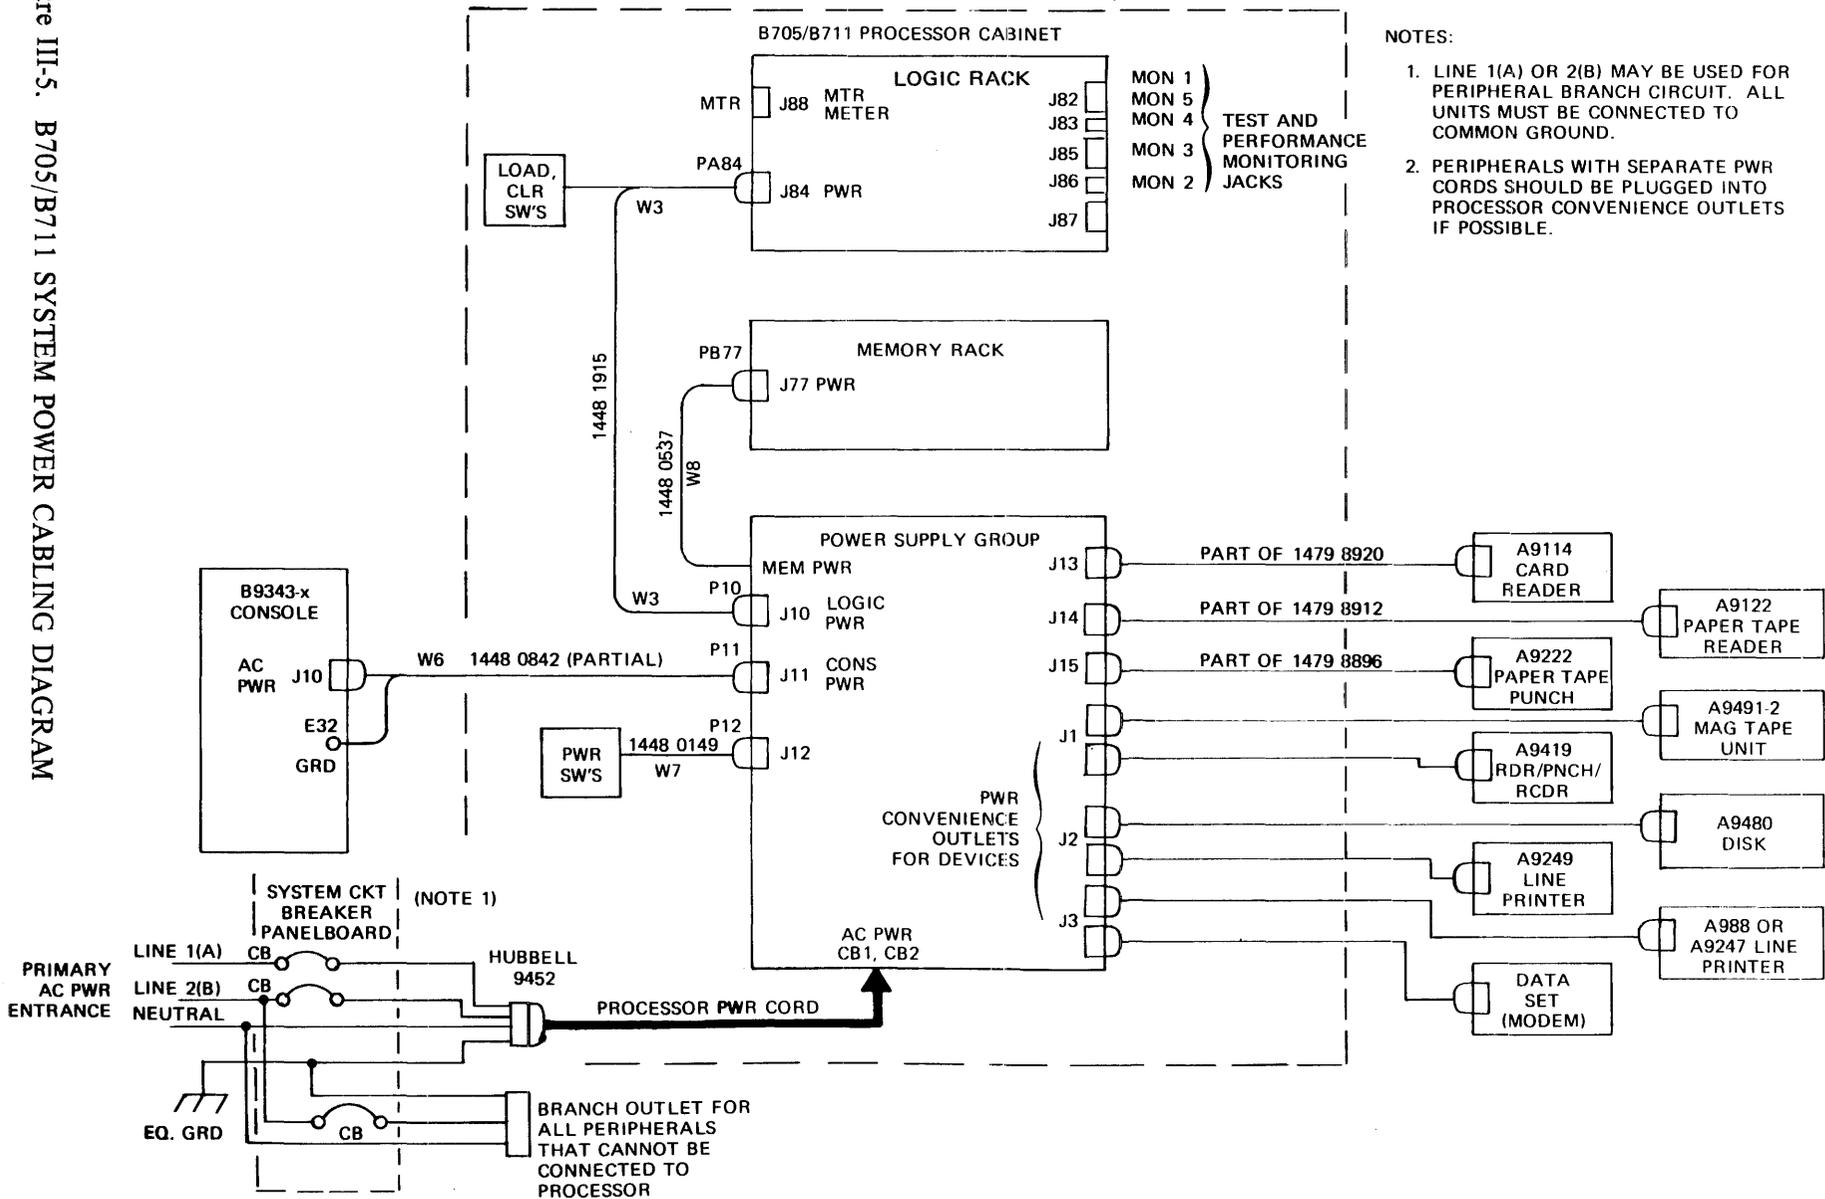

Figure III-5. B705/B711 SYSTEM POWER CABLING DIAGRAM
Figure III-5 shows the interconnection of the power cabling in a complete B705/B711 system configuration. As applicable, the part number of each cable is identified. Refer to Table III-3 for a complete list of B700 system power cables and other pertinent information. The actual system power cabling depends on the options and types/numbers of peripheral devices used.
Jacks J13, J14, and J15 on the power control assembly supply AC power to certain peripheral devices through branch harnesses and connectors of the respective I/O cables. (See Figure III-5.) DC power is supplied for some peripherals, such as the tape cassette, directly through the respective I/O cables.
1. Make certain that circuit breakers on branch AC power distribution panelboard (Figure III-5) are in OFF positions.